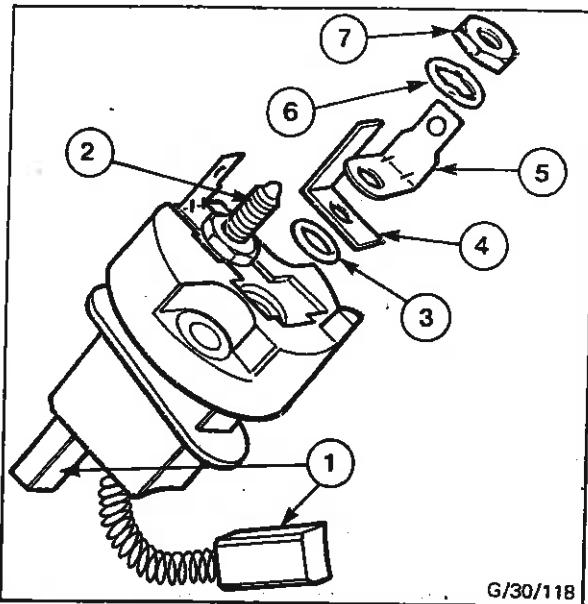

Fig. 79 - Assembling Brushes
9. Refit brushes (1) to brush box, making sure that the terminal posts (2) are fully seated. Thread new 'O' sealing rings (3) over both the terminal posts and assemble insulator (4) to one of the terminals. Fit Lucas blades (5) and crinkle washers (6) to both terminals and secure with terminal nuts (7) - see Fig. 79.